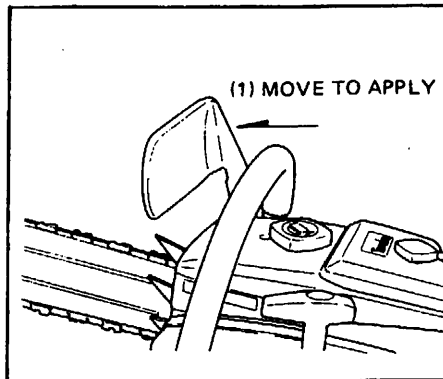

Fig. 10A
4. Chain brake operation(Optional) (Fig.10A)